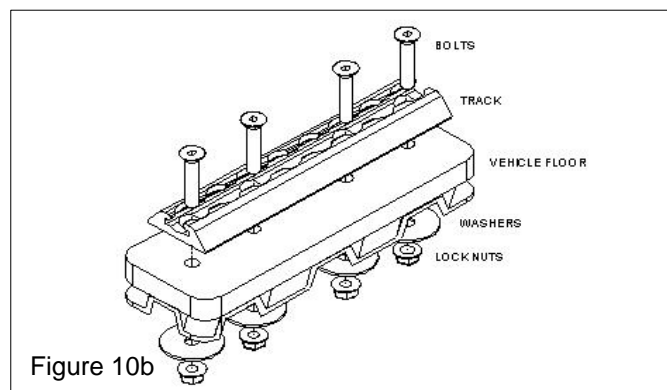

Figure 10b
3. If **surface mounting** track onto floor (Figure 10b), place track on floor and proceed to Step 5.